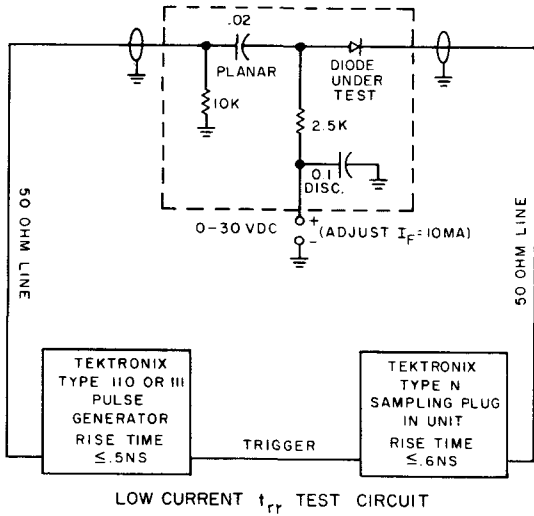

Figure 6
- NOTES (1) Maximum Capacitance is measured on Boonton model 75A capacitance bridge at a signal level of 50 mV at V_R = 0
(2) Maximum Reverse Recovery Time, I_F = 10mA, V_R = -6V, R_L = 100Ω, Recovery to 1.0mA (Figure 6)
(3) Maximum Forward Recovery Voltage, -50mA peak square wave, 0.1 μsec. pulse width, 5 to 100 kHz repetition rate, generator rise time (t_r) ≤ 30nsec.
(4) Also 3μA at 20 V at 100°C